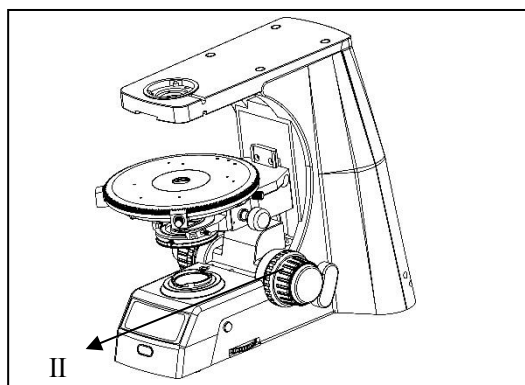

Figure 4
- ◇ After placing the flat table smoothly, tighten the screws at II in Figure 4 inwardsofar so that the flat table does not turn and shake.